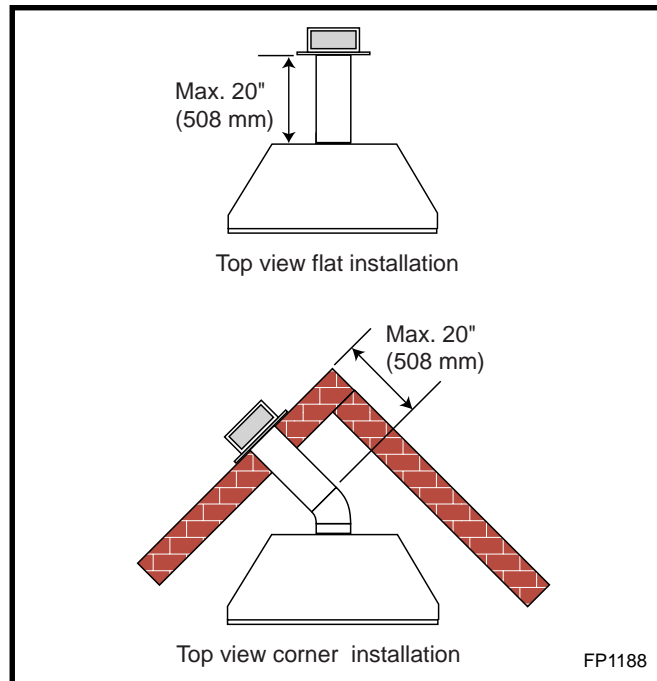

Fig. 15 Rear vent application, maximum horizontal distance.
- The maximum horizontal distance between the rear of the appliance (or end of the transition elbow in a corner application) and the outside face of the rear wall is 20" (508 mm) (Fig. 15).
Measure the horizontal length requirement for the venting including a 2" (50 mm) overlap, i.e. from the elbow to the outside wall face plus 2" (50 mm) (Fig. 15).